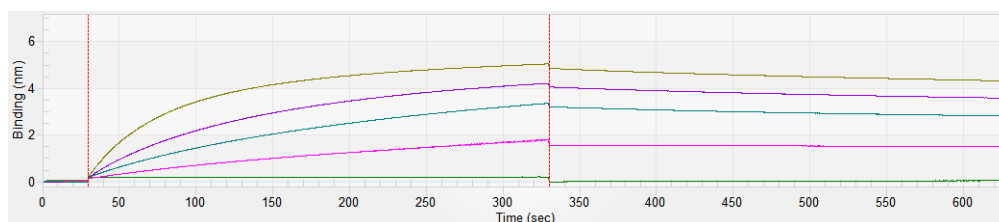

Figure 4-52: Observing Run Data
The sensorgram displays the results after five (5) runs (Figure 4-52).